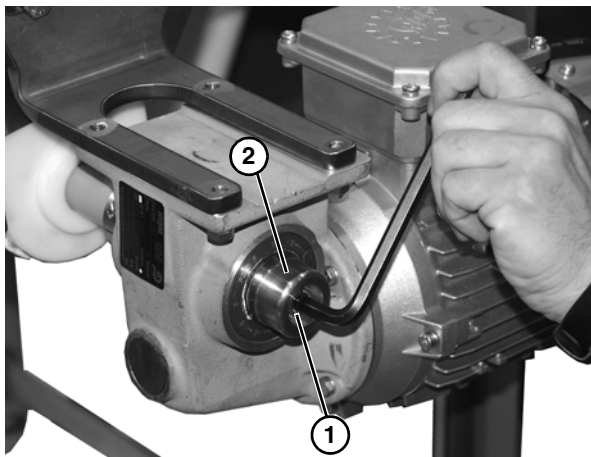

Figure 36
1. Remove socket head screw (Figure 36, item 1) and gear reducer end cap (Figure 36, item 2).